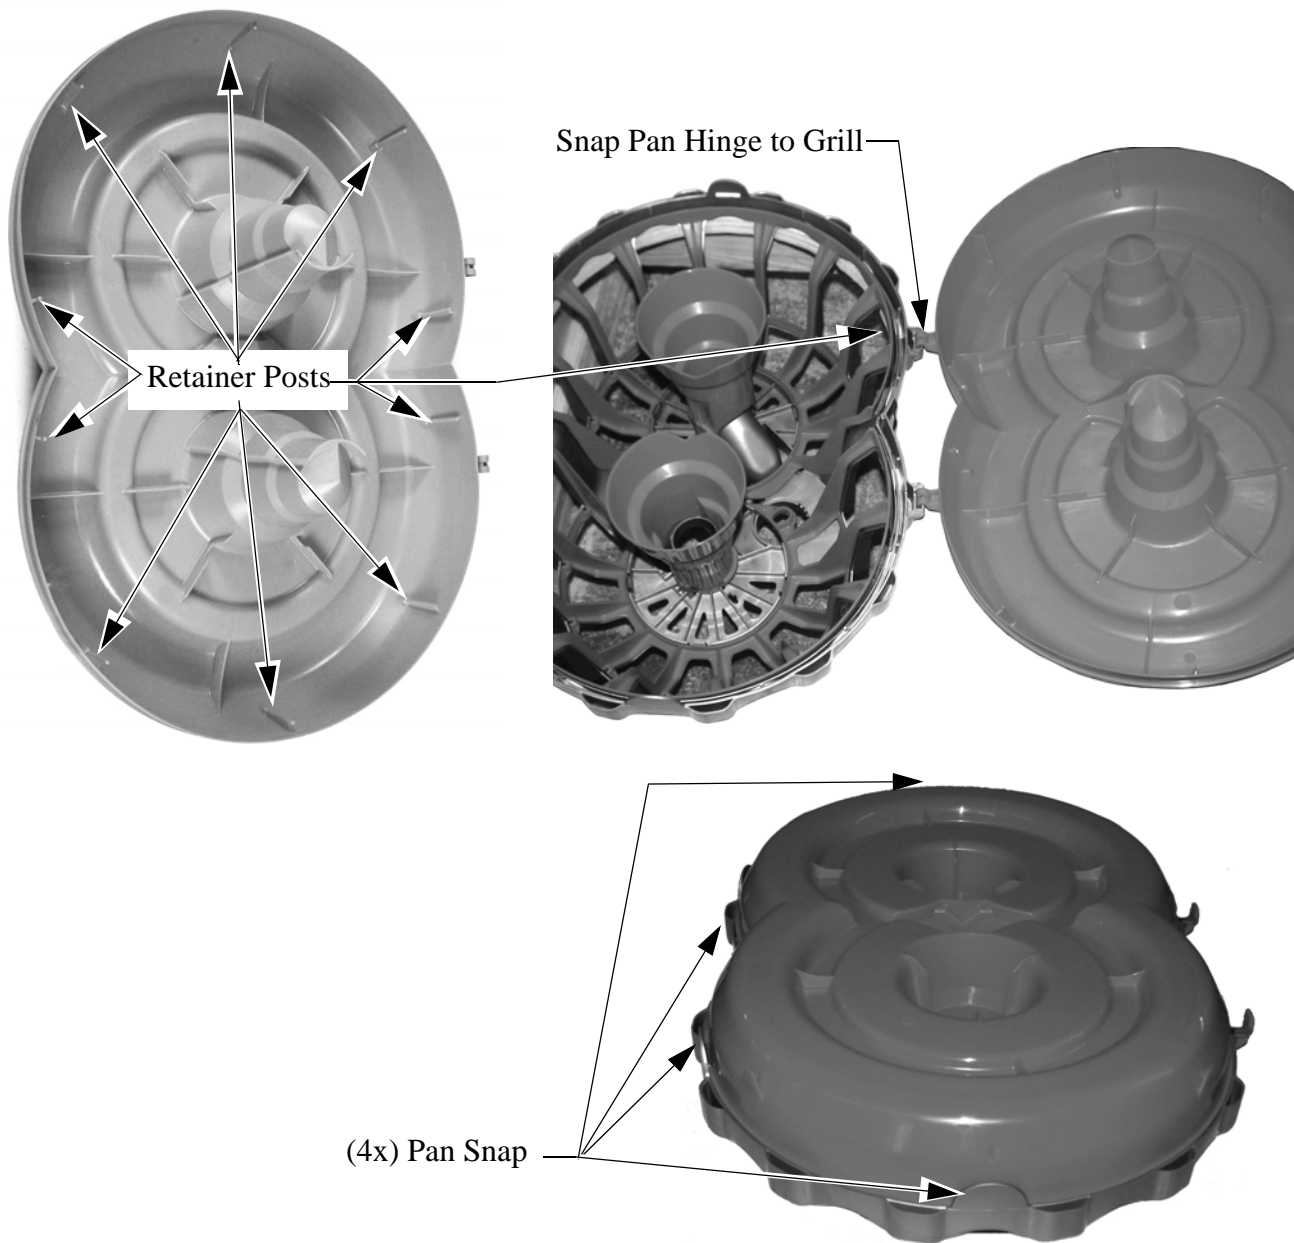

Figure 24. Install Feeder pan
7. all four Pans snaps, snapped in properly. raise the Feeder and check to see that all Pans are snapped in completely. **See Figure 24.**